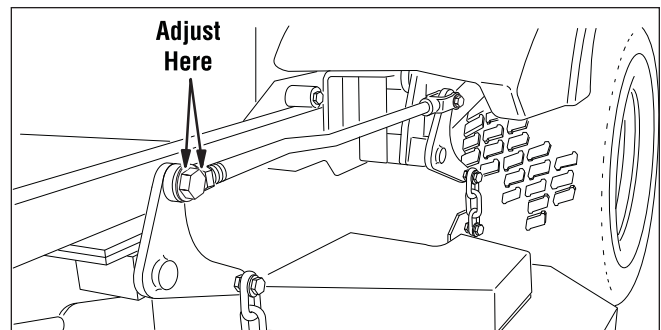

Figure 42. Adjust Lift Rod Timing
7. Refer to Figure 42. To adjust the inner lift rod, loosen the jam nut on the front ball joint then remove the 1/2" hardware fastening the ball joint to the lift pivot arm. Turn the ball joint clockwise to shorten the distance between the rod pivots or counterclockwise to lengthen the distance between the rod pivots. Reinstall the ball joint on the lift pivot arm and secure with the 1/2" hardware previously removed. Tighten the jam nut against the lift rod.